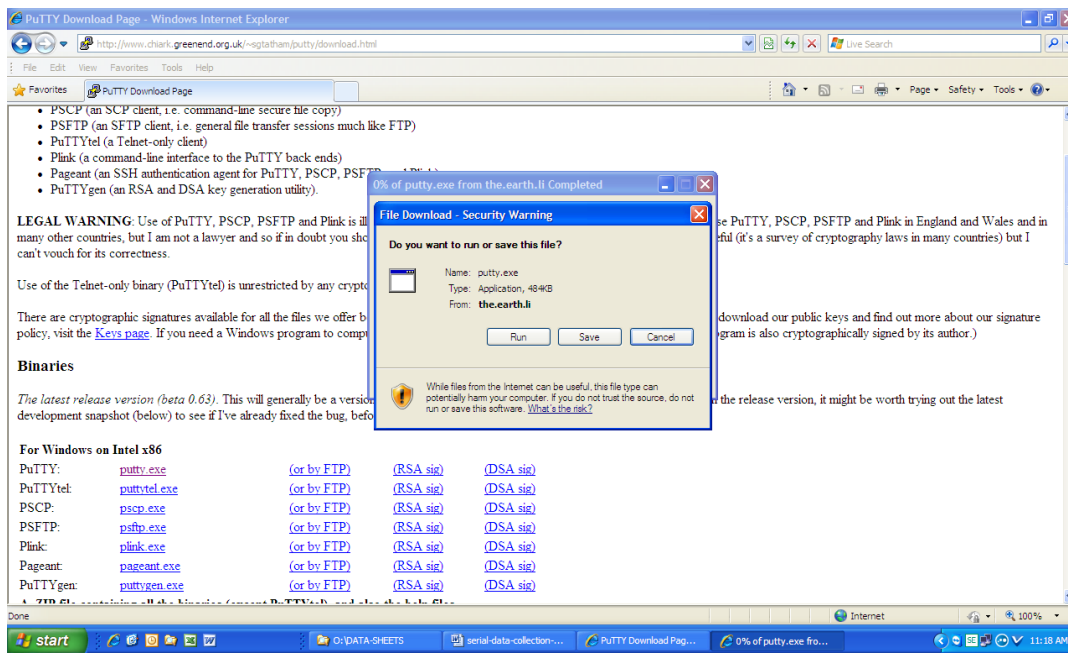

Figure 5
(Figure 5.)
3. Before running the installation select “save” and select where you want to save the file. (Figure 5.)